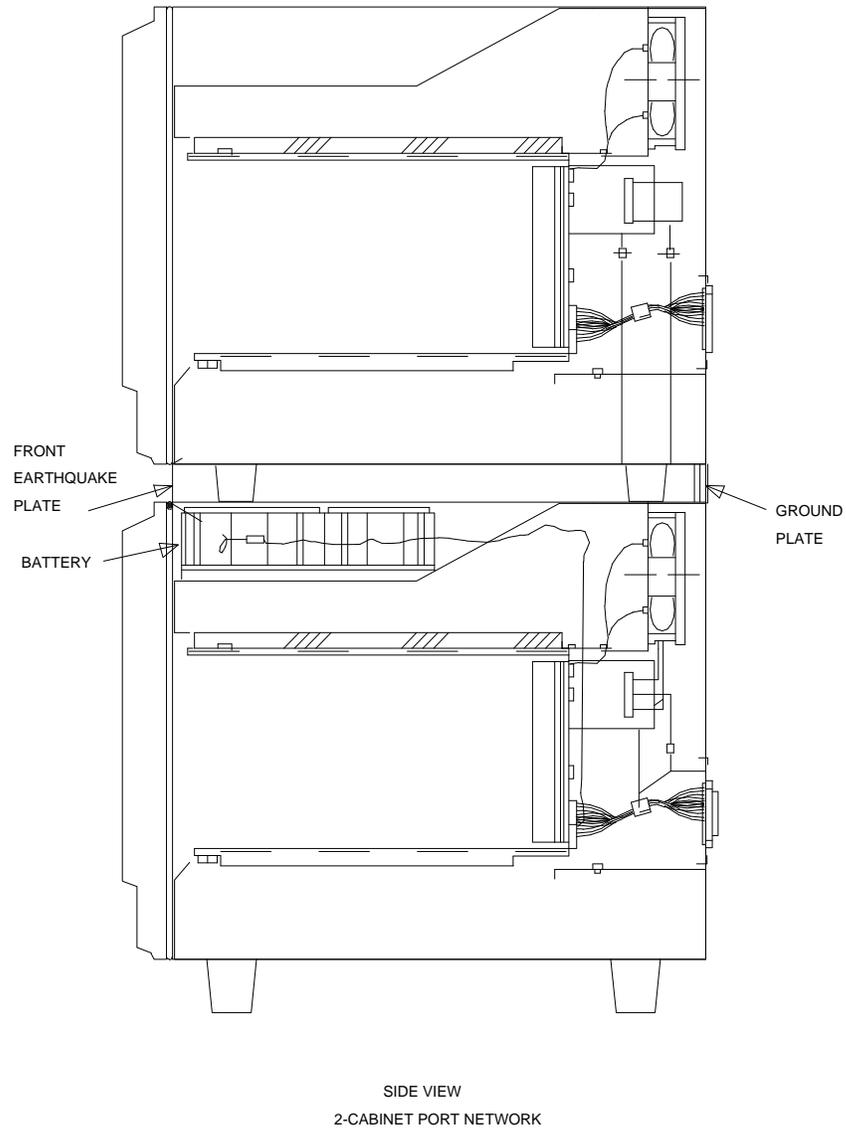

Figure 2-35. Locations of Ground Plate, Earthquake Front Plate, and Battery
6. At the front of the cabinet, line up the earthquake front plate with the holes at the top and bottom of the cabinet (see Figure 2-35). Install the eight screws, but do not tighten.